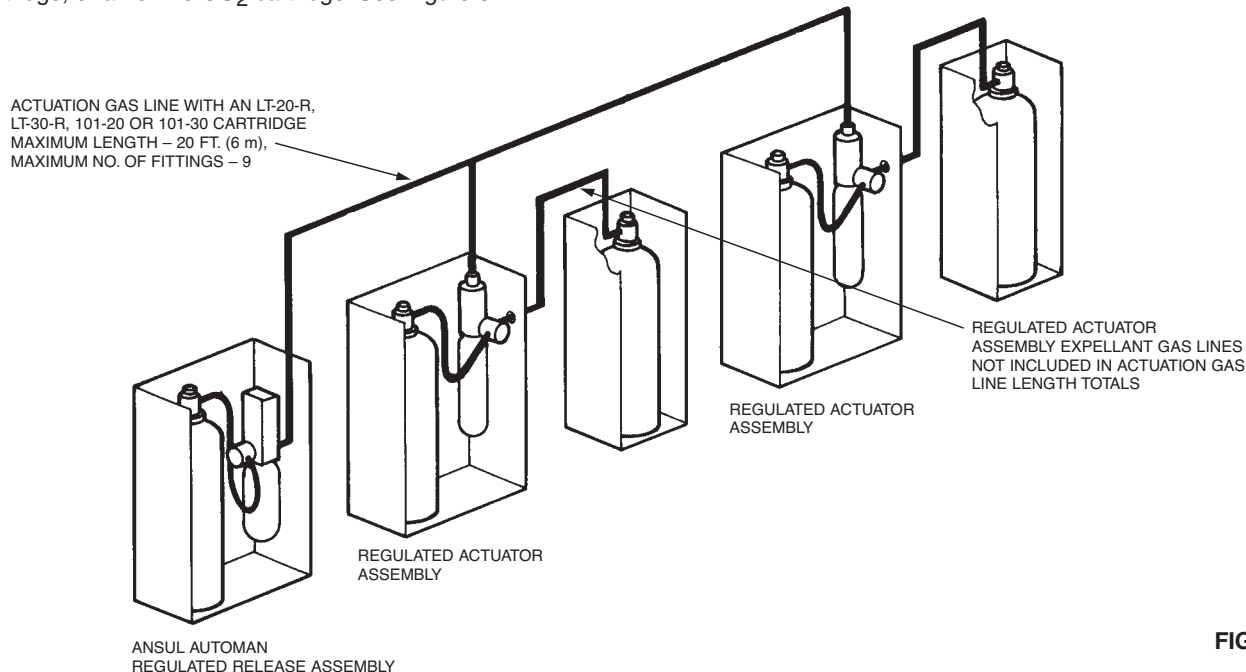

FIGURE 8
3. The total combined length of the actuation gas line from the regulated release assembly to all regulated actuator assemblies must not exceed 20 ft. (6 m) when using an LT-20-R nitrogen cartridge, an LT-30-R nitrogen cartridge, a 101-10 CO₂ cartridge, or a 101-20 CO₂ cartridge. See Figure 8.